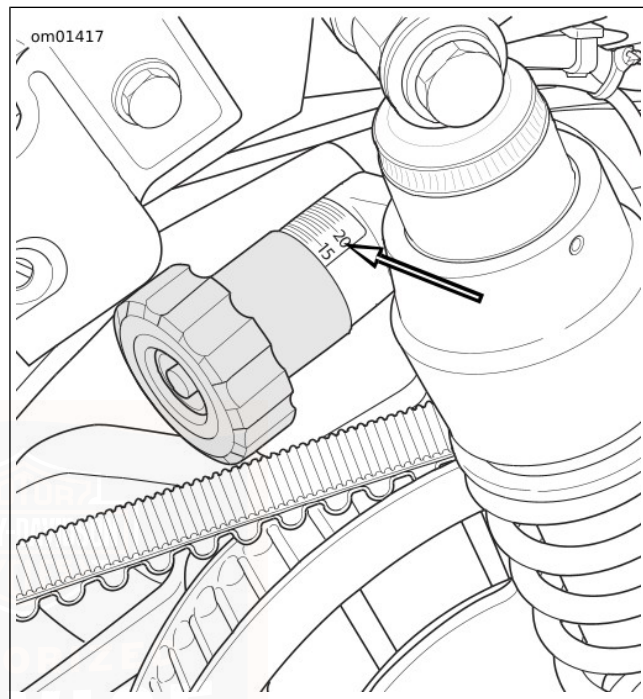

Figure 15. Preload Adjustment Knob
2. See Figure 15. Rotate the knob to the desired setting for the expected load. The knob will click after each half turn. Refer to Table 20, Table 21 or Table 22.